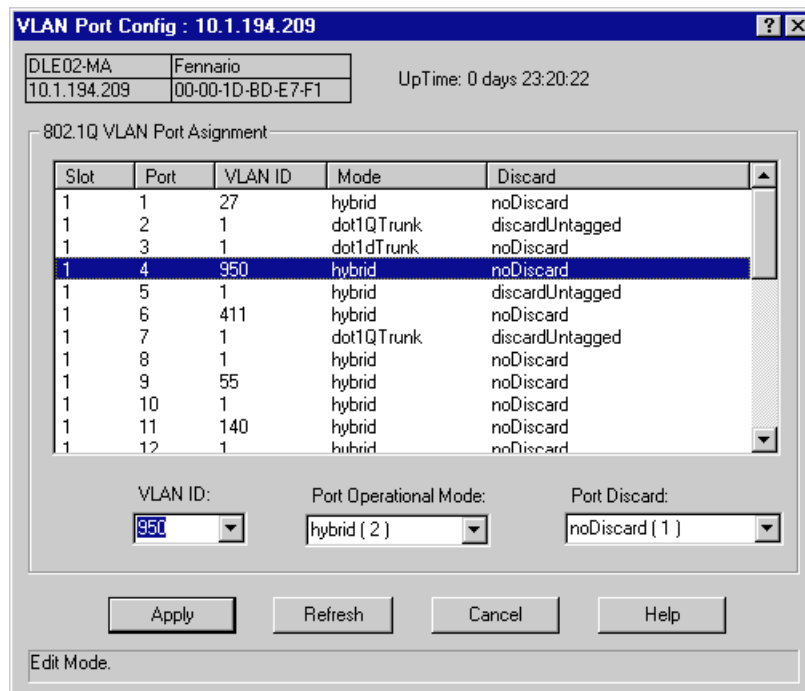

Figure 2-27. The VLAN Port Config Window
After your VLANs are defined, you may configure the ingress and egress lists for each port using the VLAN Port Config window (Figure 2-27) and the VLAN Egress Port Config window (Figure 2-28), respectively.
2. Click on **802.1Q VLAN** and then right to select **802.1Q VLAN Port Config**. The VLAN Port Config window, Figure 2-27, opens.